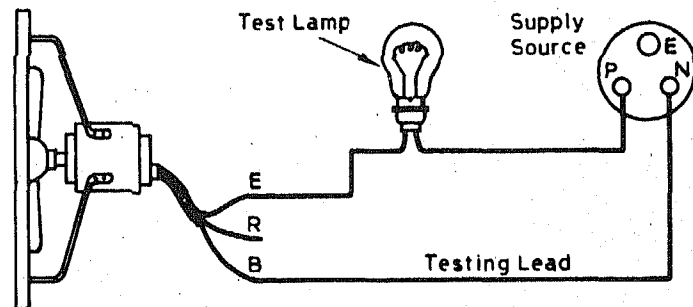

Fig.28.3 Earth and Leakage Test between Conductors and Earth (Body).
- (xvii) Conduct continuity test, short circuit test and open circuit test with the help of series test lamp. Connect the series test lamp as shown in Fig. 28.3.